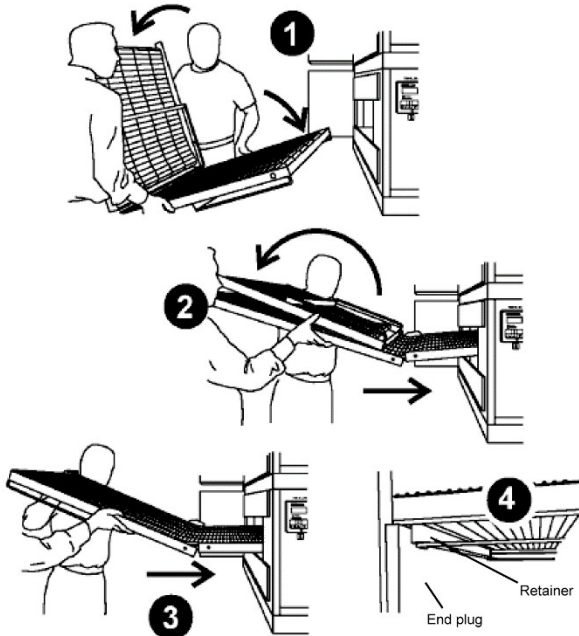

Figure 21. Conveyor Installation
1. Unfold the conveyor as shown in Figure 21. Then begin to slide the conveyor into the end of the oven. The conveyor can only be installed from the side of the oven where the drive motors are located.